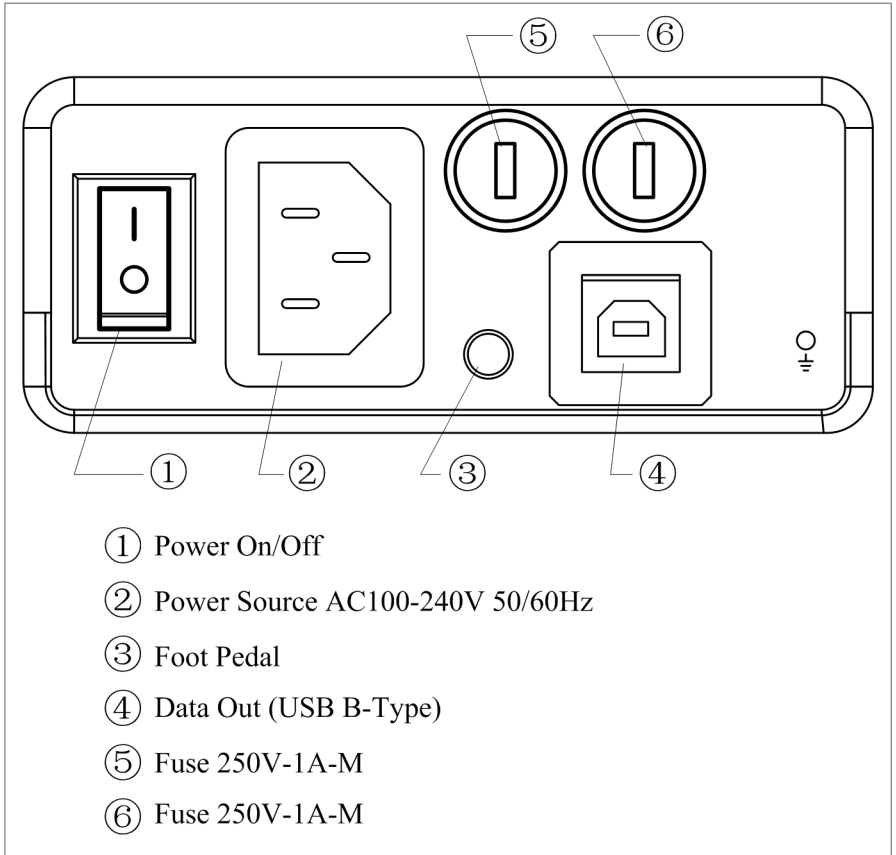

Figure 2-1 Back Panel
2. Connect the foot pedal cables connector to the back panel of the system into jacks labeled “Foot Pedal” (Figure 2-1). Place the foot pedal on the floor.